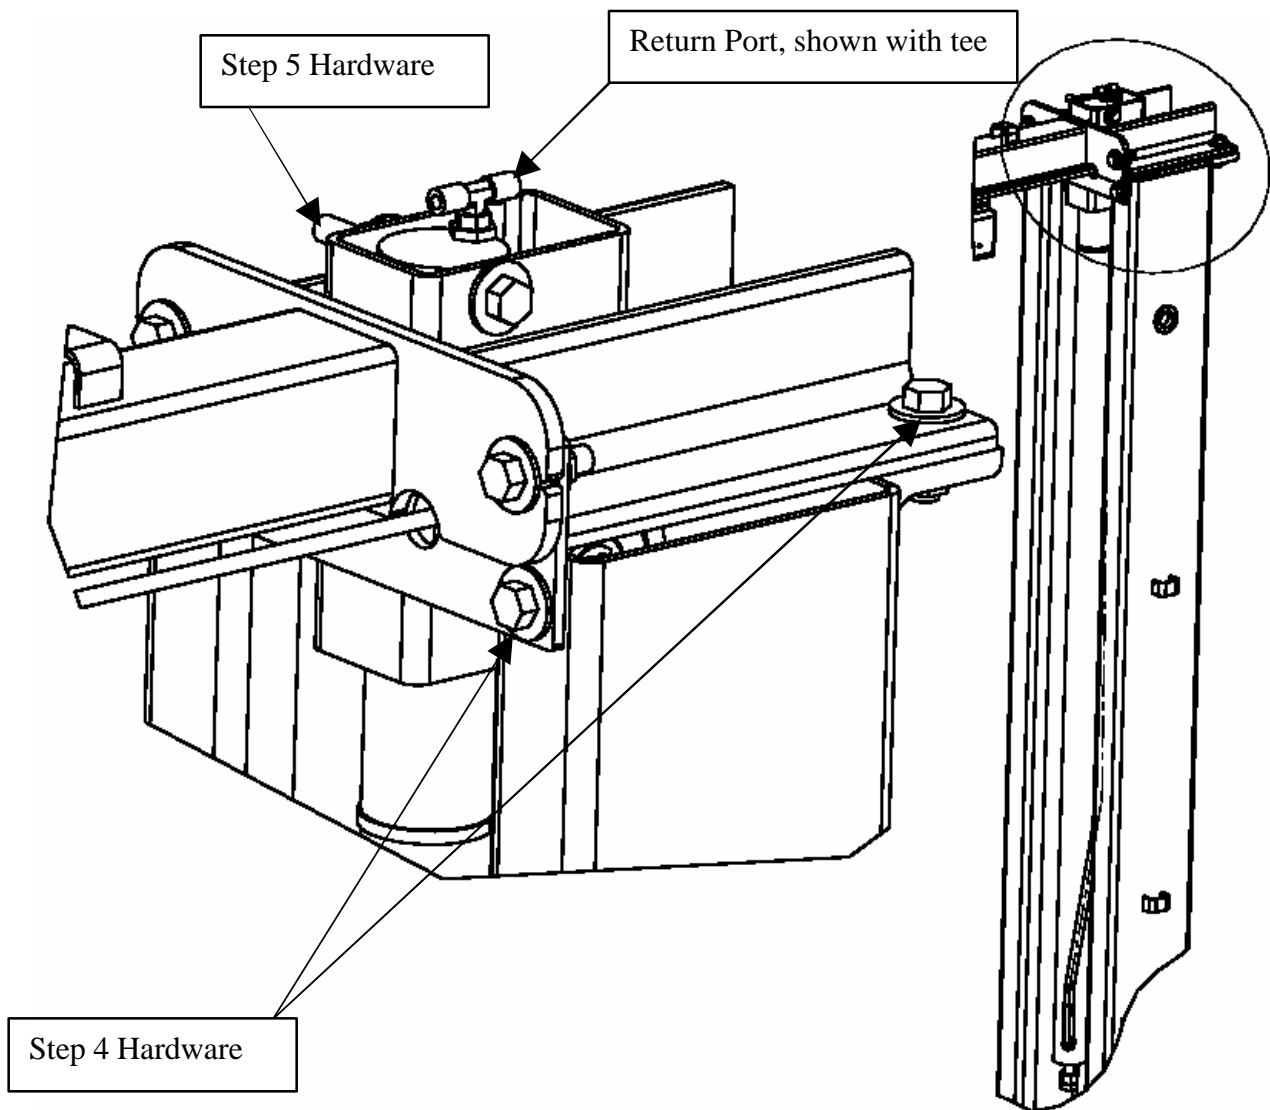

Figure 4
4. **Attach the cylinder mount or uprights.** Attach the cylinder mounts or uprights to the legs using four 1/2" X 1-3/4" bolts, washers and nuts as shown in figure 4.
- D. Install the cylinders to the uprights or cylinder mounts with 1/2" x 4-1/2" Grade 8 bolts, **cylinder bushings (spacers)**, washers, and nyloc nuts, figure 4. The port near the rod end of the cylinders should be positioned pointing to the leg's open side. **High Rise** cylinders must be attached to the alternate hole near the top of the upright.